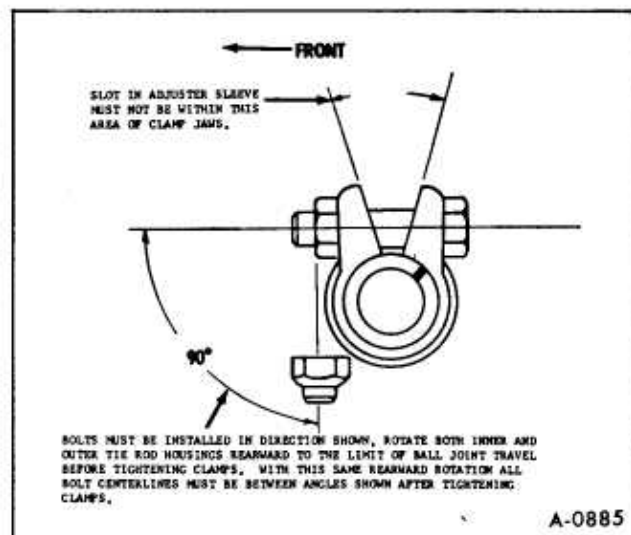

Figure 32-Positioning Tie Rod Clamp
Toe-In Adjustment (Figure 32)
3. When adjustment has been completed according to the recommended specifications, check to see that the number of threads showing on each end of sleeve are equal and that the tie rod end housings are at right angles to steering arm. Position inner and outer tie rod clamps as shown in Figure 32. Torque nuts to 20 ft. lbs.